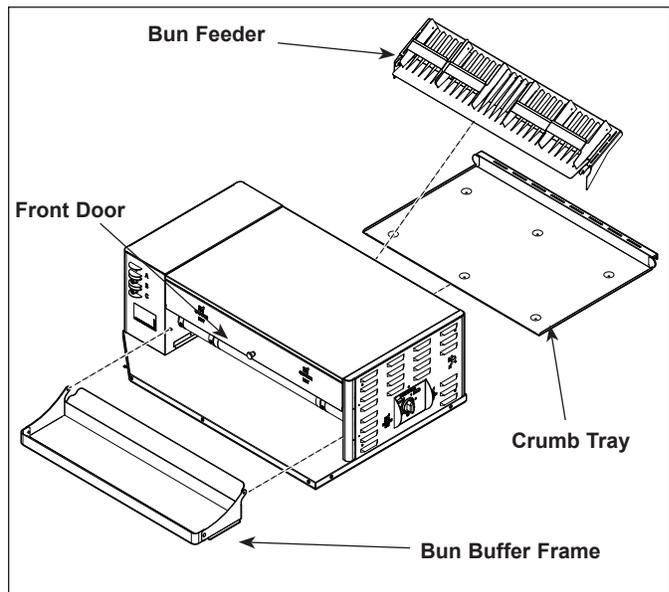

Figure 4. HCT-5H Components
1. When the unit is plugged in, press and hold the **MENU** button (Figure 4) for five seconds. The control panel displays "Platen A"
2. Press ◀ and ▶ (Figure 4) to scroll through the settings, which appear in the following order:
2. Put on neoprene gloves. Remove the Bun Feeder, Crumb Tray, and Bun Buffer Frame (Figure 4).
7. Lift the front door to inspect the belts (Figure 4). Replace any Belts that are torn, folded, discolored, missing snaps, or damaged in any way.